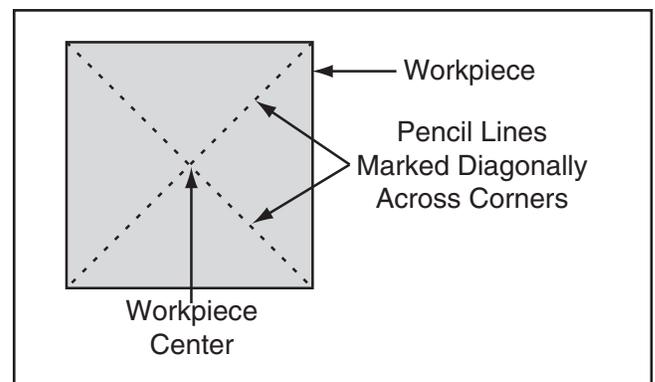

Figure 36. Workpiece marked diagonally from corner to corner to determine the center.
1. Find center point of both ends of your workpiece by drawing diagonal lines from corner to corner across end of workpiece, as shown in **Figure 36**.